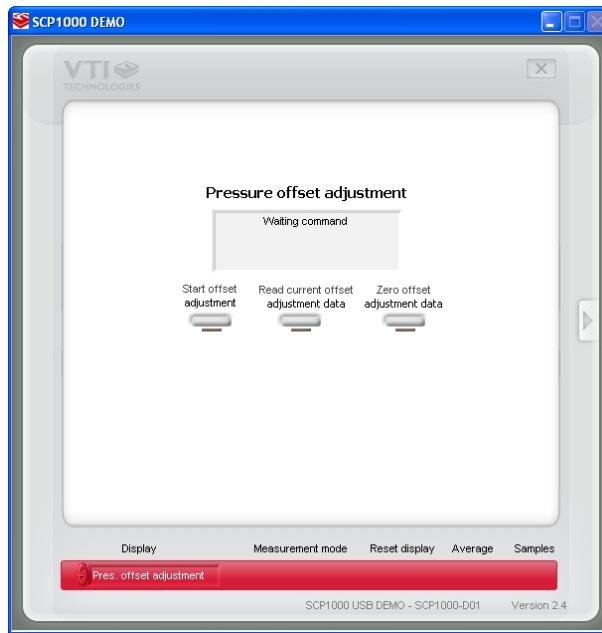

Figure 9. Pressure offset adjustment display.
1) more information on SCP1000 offset adjustment in Figure 9 and in TN48